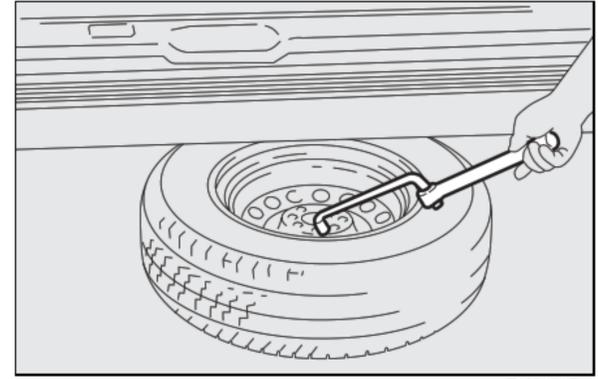

fig. 6
- use the wrench **C** to take the wheel out of the vehicle **fig. 6**;